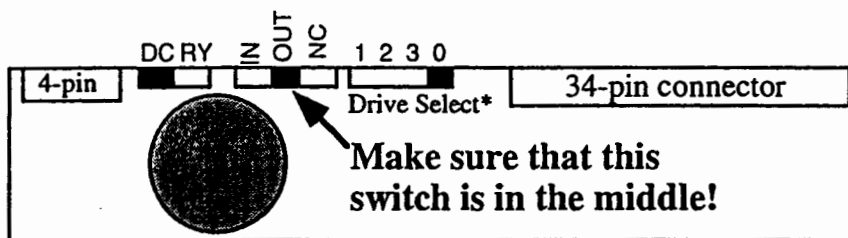

Figure 1 – Rear view of Panasonic Disk Drive
- **What disks to use:** It is very important to use double-sided, double-density (DD) or high density (HD) 3.5" micro-floppy disks. The TS writes information to every track on a disk, so it is imperative that the disk be of superior quality.
- A few different disk drives were used in the TS: two types of Panasonic drives and one Sony drive. Make sure that when you install a new Panasonic disk drive that the switches on the rear of the drive are set as shown in Figure 1. On some Panasonic disk drives, the Drive Select Switch has only two positions instead of four. The drive select should always be set to zero (0).